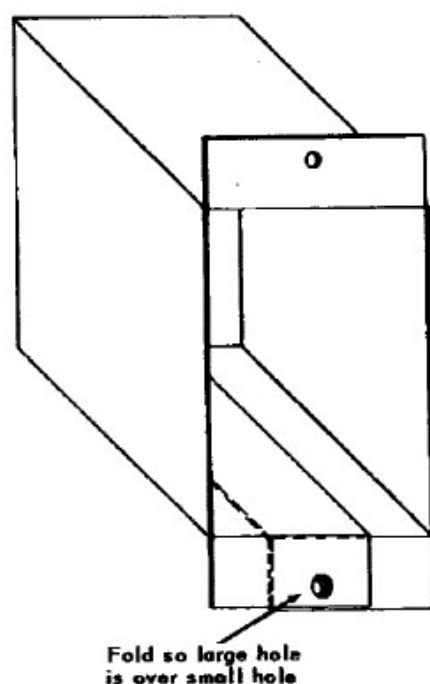

FIGURE 2
4. Fold liner (See Figure 2) and attach to flush plate with mounting screws.